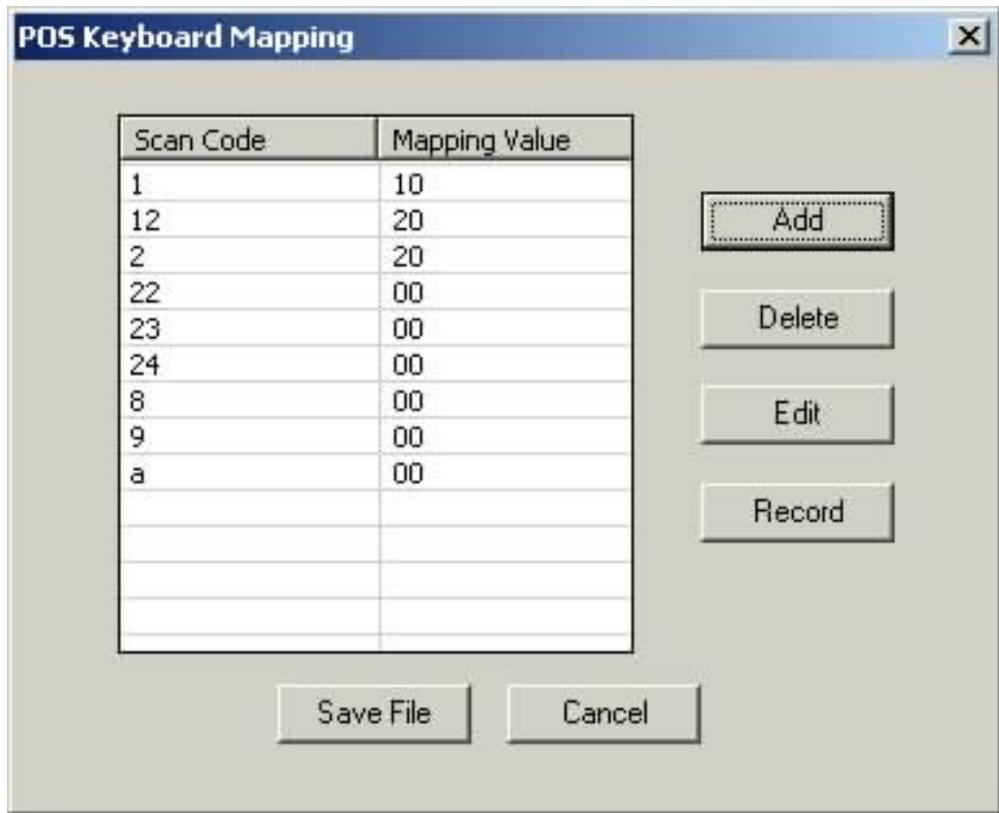

Figure 27. Sample POS keyboard mapping dialog
4. Enter the name of the POS keyboard mapping file. If the file exists, it is read and the values are displayed in the POS Keyboard Mapping window (see Figure 27 on page 152).